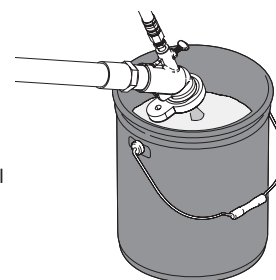

Fig. 12
3. Place spray gun outlet in a waste container. The waste container must be large enough to hold all spray material. (Fig. 12)